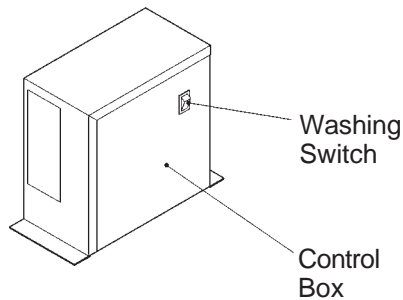

Fig. 21
9) After the ice has dropped and the Water Pan begins to close, move the Washing Switch on the bottom [IM-21/25/30CLE only] or right side [except IM-21/25/30CLE] of the Control Box to the “WASH” position. See Fig. 21.